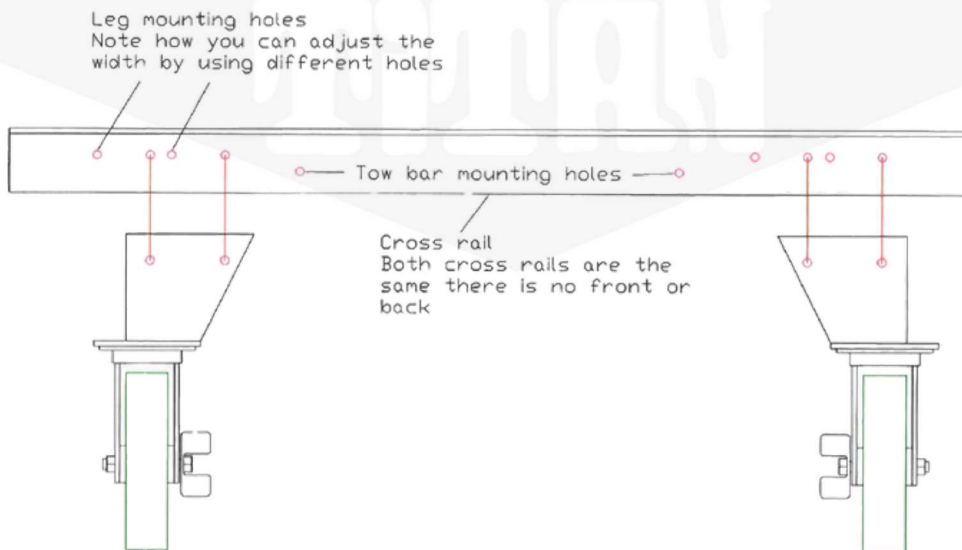

Figure 3. Front View
Step 3: Attach two legs (Part **A**) to both sides of each cross rail (Part **D**) with provided hardware. For narrow campers use holes that are closer to the center of the cross rail (Figure 3). Use the matching holes on both sides.
Step 5: Attach the center side rail (Part **F**) to the 3-hole ends of the side rails (Part **E**) using the appropriate holes for the length of your camper. Make sure both sides are bolted in the same positions (Figure 3). Do not fully tighten until the dolly is flipped back over (see Step 7).